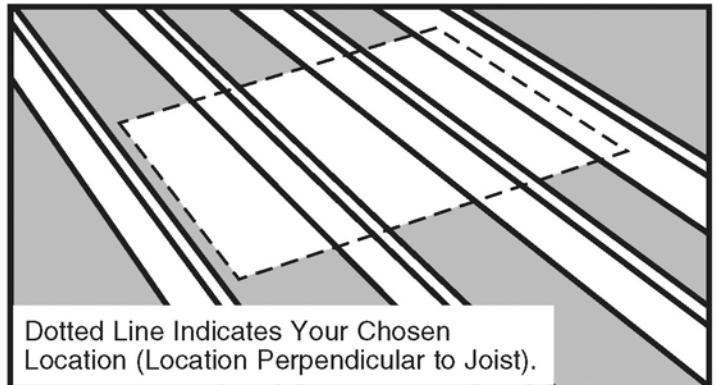

Figure 8
(B) If the chosen location is perpendicular to the joists, mark the rough opening width on top of the joists (See Figure 8). Do not cut the joist at this mark.